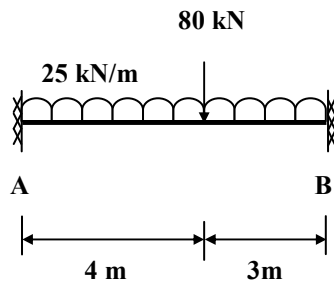

FIGURE- 3 Q-3(a)
Q.3 (a) Analyze the fixed beam as shown in *figure-3* and draw SFD and BMB for the same. Take EI constant. **07**